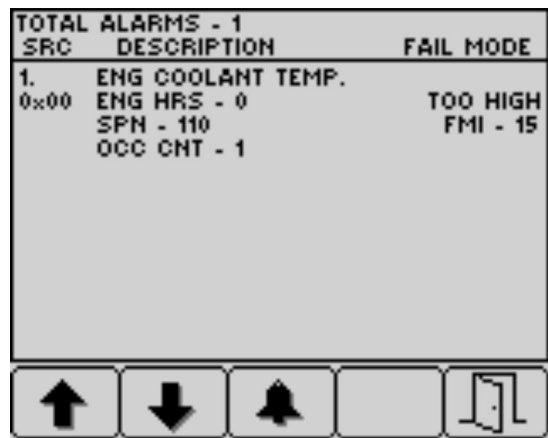

Figure 80
4. Press button 5 to exit the active fault list and return to the home screen (Figure 80).
5. Press button 5 to exit the active fault list and return to the home screen; refer to Figure 80 in Engine Advisories Messages \(page 43\).